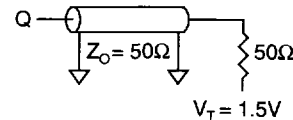

Figure 1
| Output load .....                   | See Figures 1 and 2     |
- Test conditions as specified with the output loading as shown in Figure 1 unless otherwise noted.